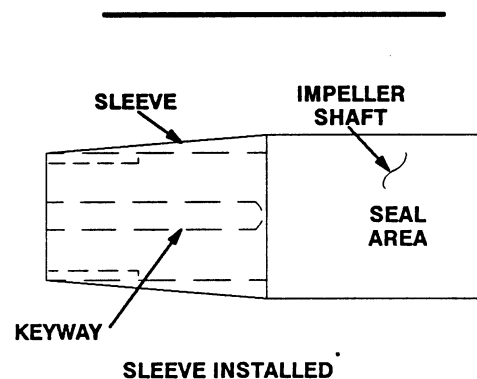

Figure 6. Seal Installation Sleeve
*It is recommended that a tapered sleeve (see Figure 6) be installed over the shaft keyway to ease installation of the rotating portion of the seal. This tool can be made from steel tubing or black pipe.*